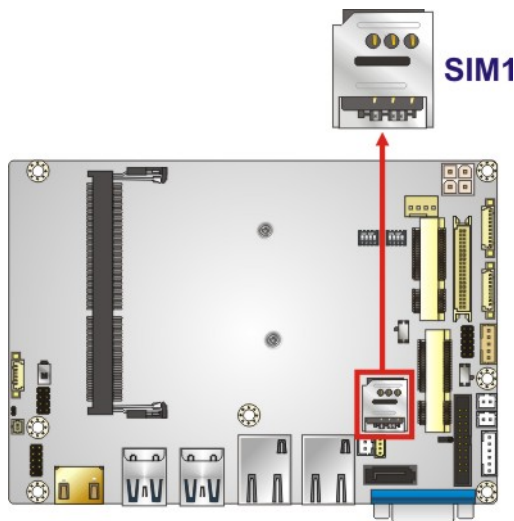

Figure 3-18: SIM Card Slot Location
- CN Location:** See **Figure 3-18**